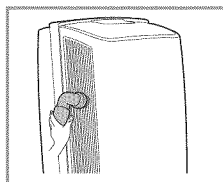

Fig.4
4. Reattach the **DRAIN CONNECTOR** end of garden hose to the dehumidifier (Fig.4) then check hose for kinks or obstructions. The position of the hose at the floor drain must be lower than **DRAIN CONNECTOR**.
4. Insert the end of hose into the drain hole (Fig.4), then screw **DRAIN CAP** back onto the unit. Place the other end of the hose in the location you want the water to go: to a floor drain, a water container, or through a basement window to the outdoors. (Pump can lift water up to 15 feet above the unit.) Check hose for kinks or other obstruction.
5. SIDE GRILLS can be cleaned using a vacuum cleaner or a soft brush to remove dust. (Fig.4)
6. SIDE GRILLS can be cleaned using a vacuum cleaner or a soft brush to remove dust. CHECK YOUR FILTERS PERIODICALLY TO INSURE PROPER OPERATION. (Fig.4)